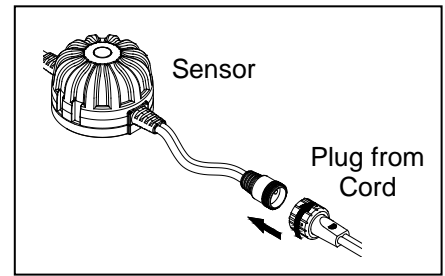

Fig. 4
- Unwind power cord and connect another side of the cord for LED light to the sensor by pushing the plug into the sensor socket until it is firmly seated. Hand tighten the nut from the plug to the socket. Fig. 4